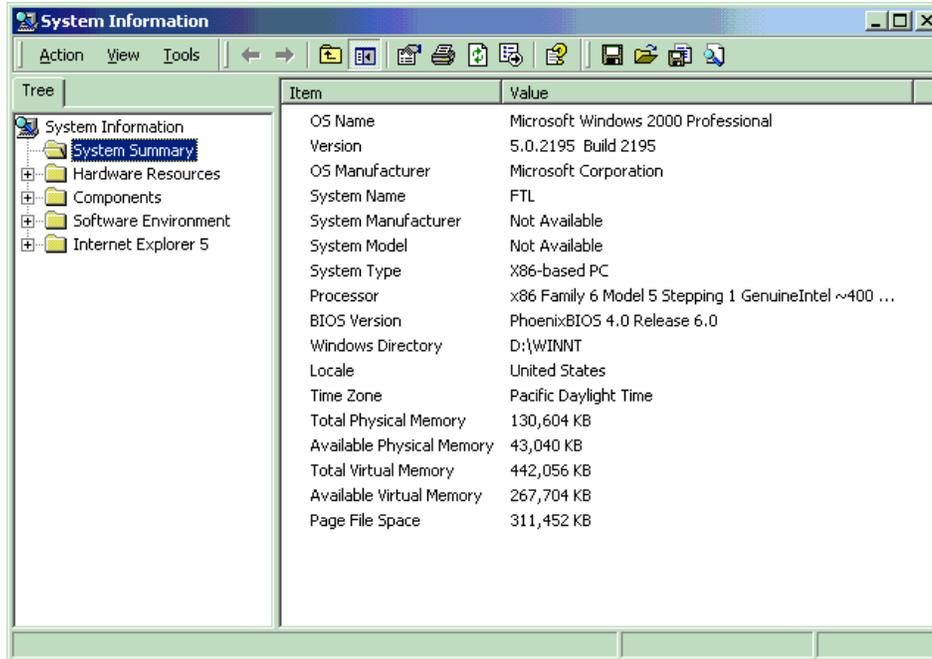

Figure 95. System Information Window
2. Double-click **System Information**. The System Information window opens (Figure 95).